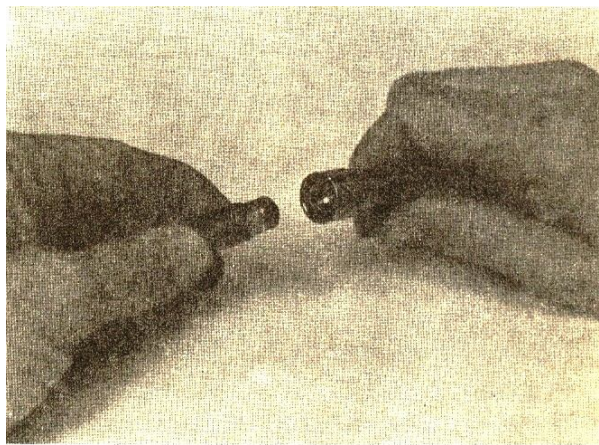

Fig. 4-15. Check the push rod socket
2. Check the socket of the push rod with the ball end of a new rocker lever adjusting screw or with a 1/2 inch (12.7 mm) check ball. Contact should show in 80 percent of seat area. Fig. 4-15.